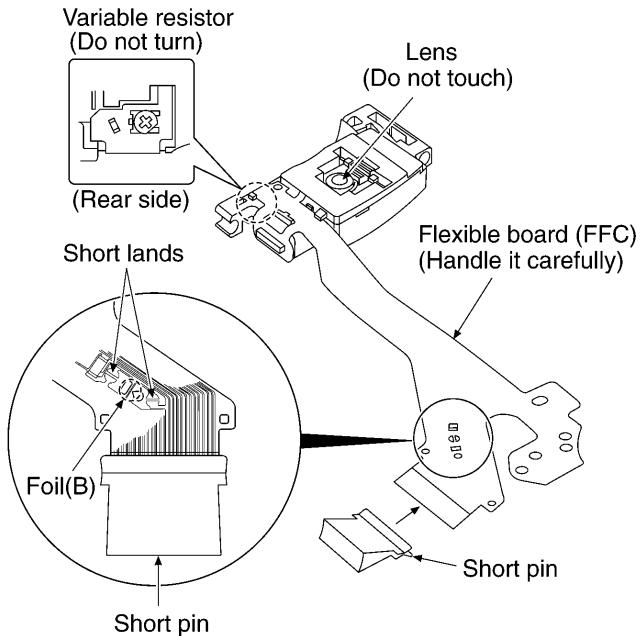

Fig. 3-1.
(Refer to Fig. 3-1.)
4. Do not turn the variable resistor (laser power adjustment). It has already been adjusted. (Refer to Fig. 3-1.)
2. Cut the foil (B). (Refer to Fig. 3-1. ) (Take care not to make contact with cutting point each other.)
3. Unsolder the short lands. (Refer to Fig. 3-1. )